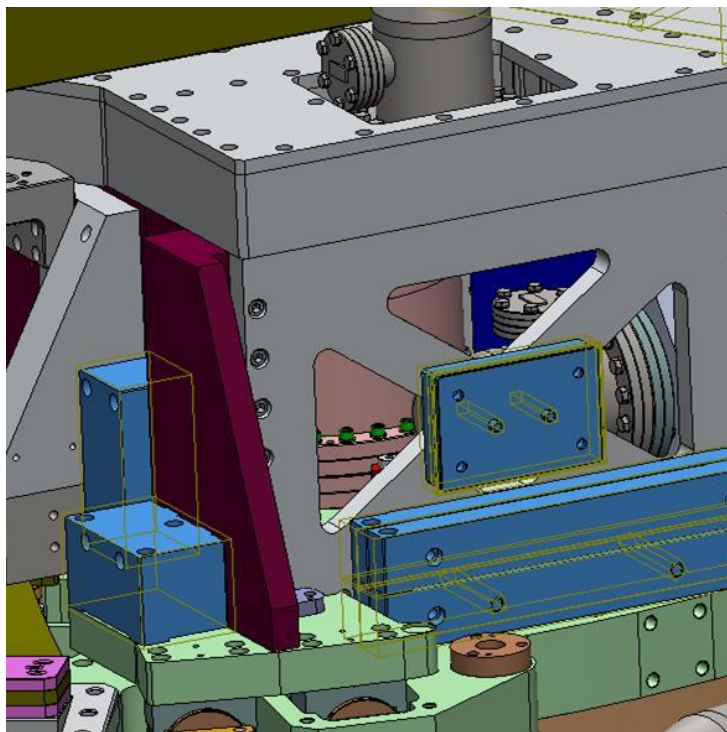

Figure 134: Stage 1 Trim weights shown in blue
1.84. Once stages are floating check height gages to make sure assembly is level relative to stage 0 and at the pre-post removal height. Add trim weights bars to the stages 1 (Figure 134) and 2 until this is achieved.